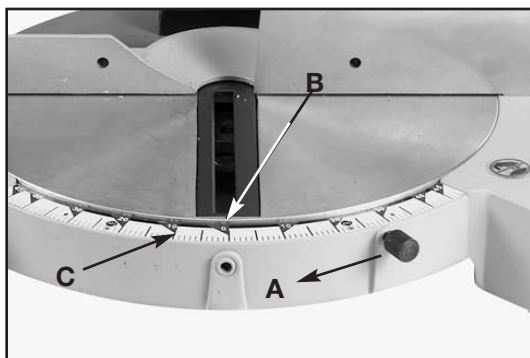

Fig. 14
Your compound miter saw will cut any miter angle from a straight 90 degree cut to 45 degrees right and left. Loosen table lock knob (A) Fig. 14, and use the switch handle as a grip to rotate the cutting arm until the pointer (B) aligns with the desired setting on the miter scale (C). Tighten table lock knob (A).
**⚠ WARNING** Lock knob (A) Fig. 14 must be tightened for **ALL** cutting operations.